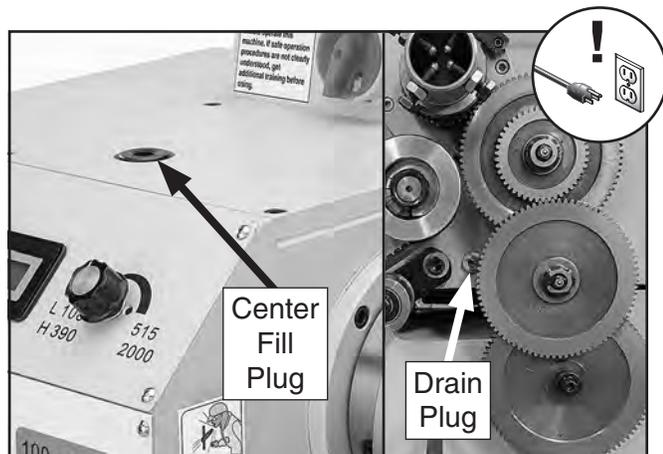

Figure 93. Headstock fill and drain plugs.
The oil fill plug is located on top of the headstock, as shown in **Figure 93**. The oil drain plug is located on the side of the headstock, behind the end gear cover.
4. Remove fill plug from top of headstock (see **Figure 93**).
5. Place two-quart catch pan under headstock drain plug (see **Figure 93**), then remove drain plug.